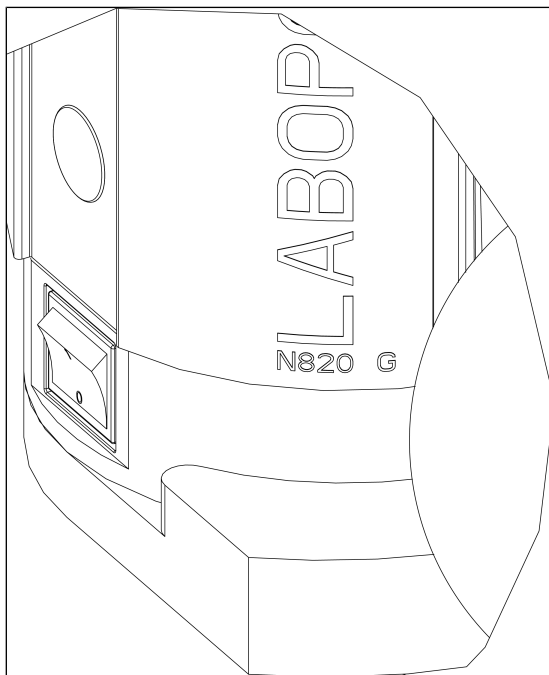

Fig. 7: Switch vacuum system on and off with power switch
- Switch on the vacuum system with the power switch (see Fig. 7).